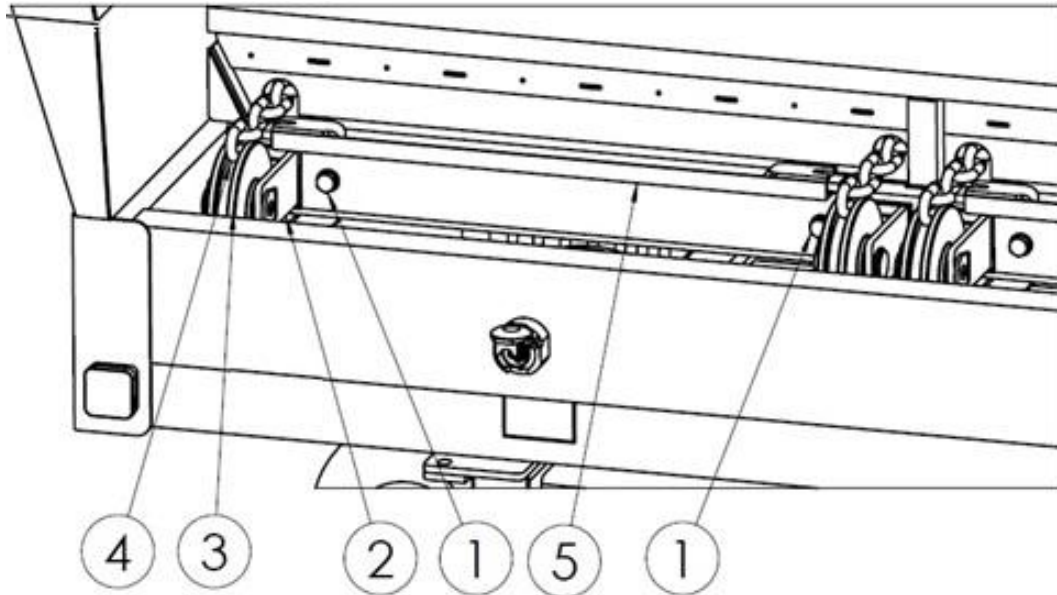

Figure 33. Tensioning floor conveyor chains
The tension of the floor conveyor chains during operation must be checked daily, especially during the initial period of operation. Carry out the tensioning of the conveyor chains by adjusting screws at the front of the spreader body - Figure 33. To increase chain tension, tighten the adjusting screws (1) so that the tensioner slider (2) and the pulley (3) move forward. Follow the tensioning procedure for both pairs of chains (4), ensuring that their tension is equal